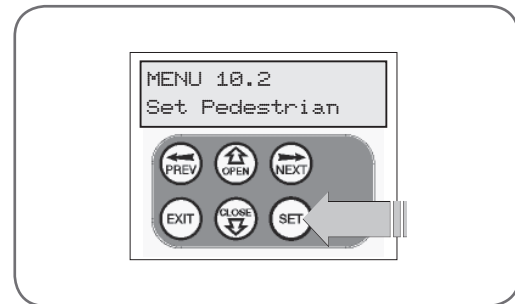

fig 18
4. Press SET to enter Set Pedestrian procedure (Fig. 18).